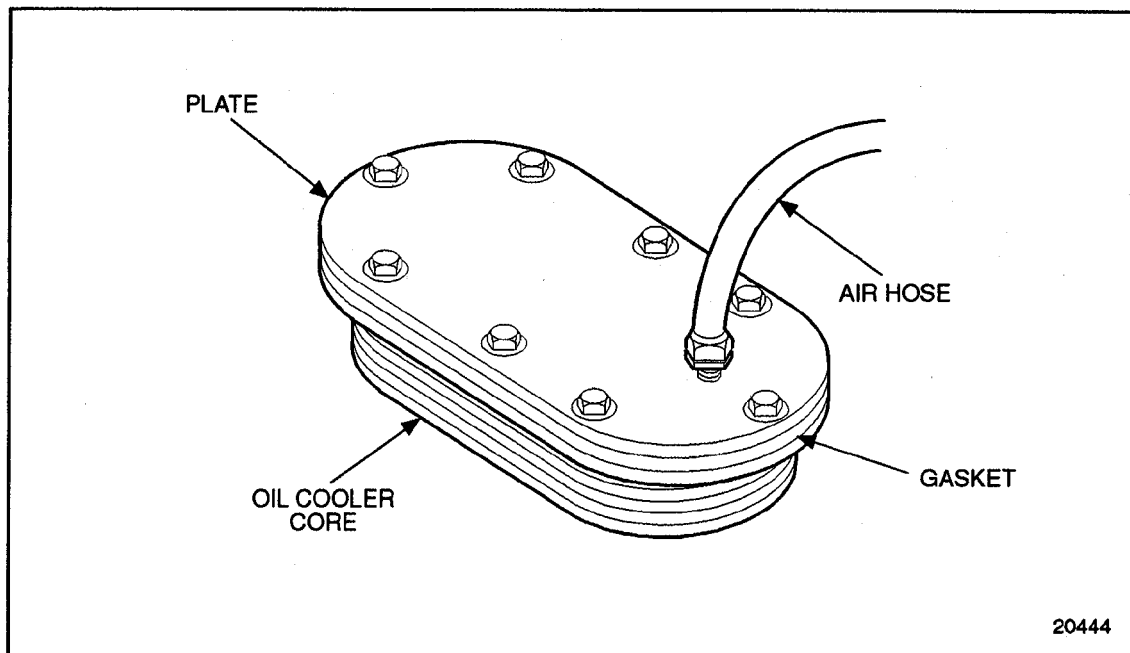

Figure 3-28 Preparing Oil Cooler Core for Pressure Test
2. Drill and tap the plate prior to mounting to permit an air hose fitting to be attached at the inlet side of the core. See Figure 3-28.